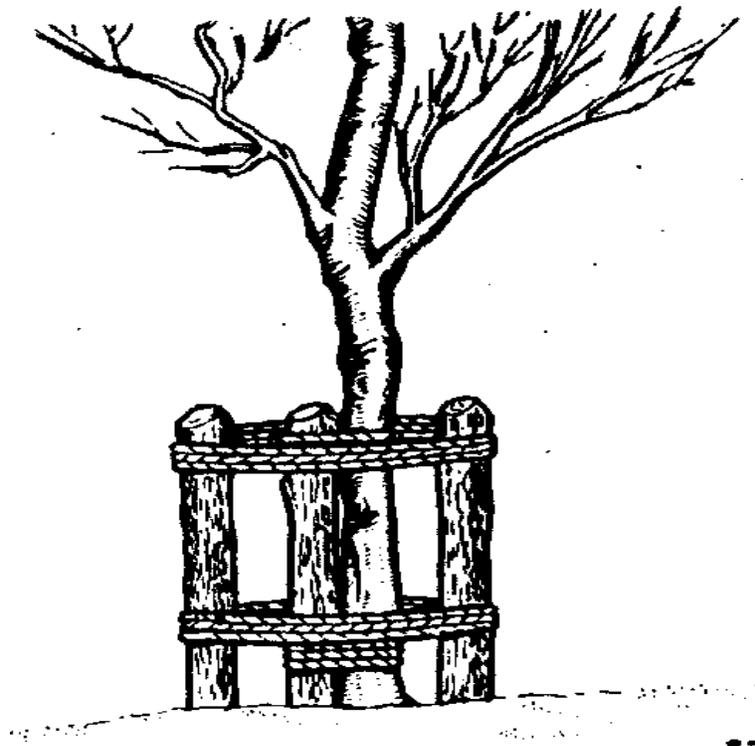

Fig. 13-6a Tree and Log Form (side view)
a. **Tree and log forms** - Construct a form as shown in Fig. 13.6a and 13.6b so that the space to be filled is at least one foot wide. Fill with ice-crete.